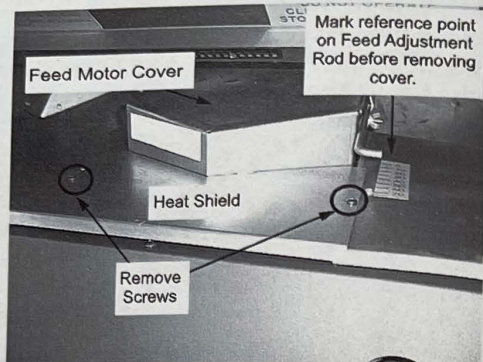

Figure 3
NOTE: Place a reference mark on the feed adjustment rod in relation to its position on feed motor cover (**Figure 3**). This will eliminate the need to re-set the feed rate when you are done.
2. Remove two (2) screws from heat shield and then remove the heat shield; set aside (**Figure 3**).